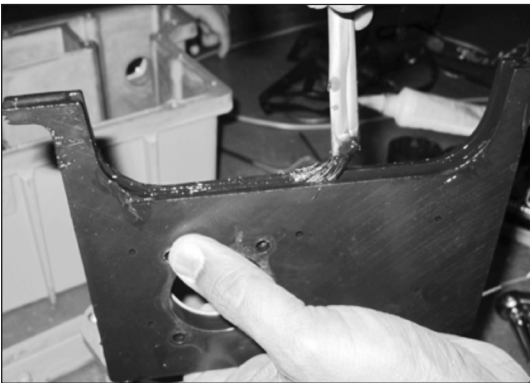

Figure 9.43 - Apply grease to gasket
3. Replace the main gasket with a new gasket (P/N 060133-000). Apply grease to the inside of the main gasket and then place the gasket on the rib next to the cartridge. Place the aluminum washer plate against the gasket as shown in the Figure 9.43. Using a 1/8" Allen wrench, tighten the #10-24 X1" screws to 10-12 in. lbs torque.